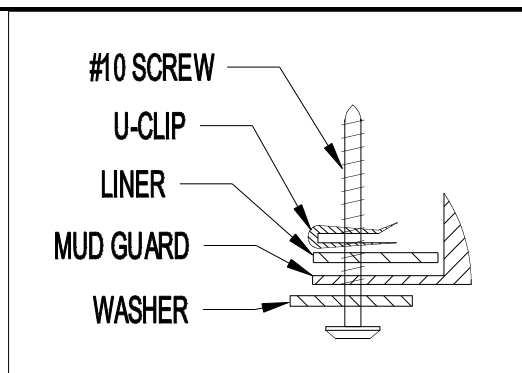

Figure 2
6. Install #10 screw and washer at location C, thru mud guard, fender liner and into a U-clip placed on the backside of fender liner (Figure 2).